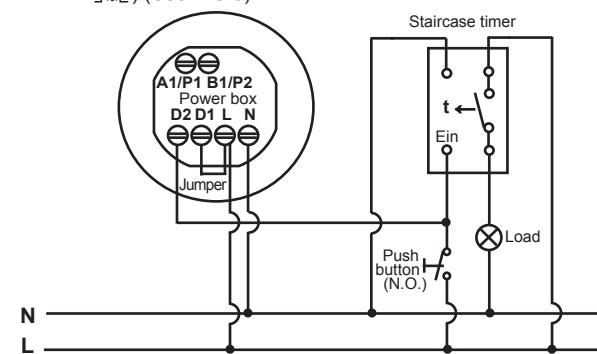

FIG.5
- One sensor controls staircase timer (Set the time knob to t_s) (See FIG.5).